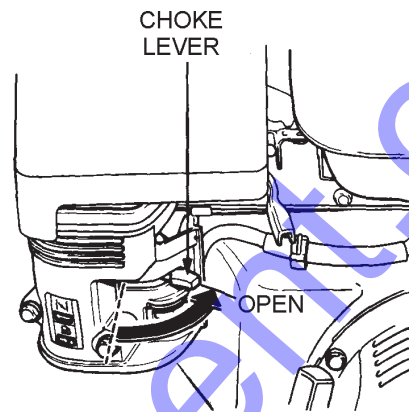

Figure 9. Engine Choke Lever (Open)
3. Place the *choke lever* (Figure 9) in the "OPEN" position if starting a *cold* engine.